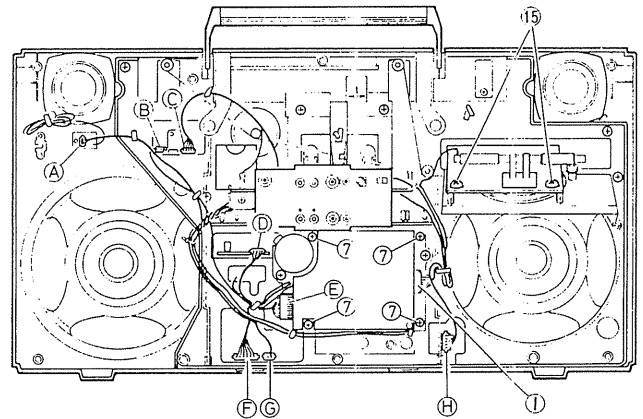

Fig. 8
C. Mechanical unit (Fig. 8)
1. Remove 4 screws (7) – SBSF3010V.
2. Remove a wire connector (I).
E. Other parts (Fig. 8, 9)
1. Tweeters = remove 4 screws (9) – SBSF3008Z.
2. Woofers = remove 8 screws (10) – SBSF4010Z.
3. Connector P.W. boards and power switch P.W. board = remove 7 screws (11) – SBSF3010Z.
4. MMS jack and phones P.W. boards = remove 4 screws (12) – SBSF3008Z.
5. Mechanical operation button P.W. board = remove 2 screws (13) – SBSF2616Z.
6. Pre-amp. and main amp. P.W. board = remove 2 screws (14) – SBSF3012V.
7. Tuner P.W. board = remove 2 screws (15) – SBSF3012V.